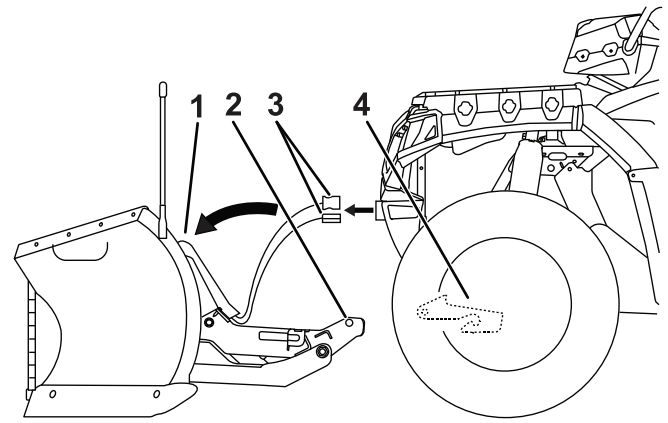

Figure 18
3. Using the coupler handle, lower the coupler tower completely (Figure 18).
4. Disconnect the plow wire harness from the vehicle wire harness and secure the electrical-plug dust-covers (Figure 18).